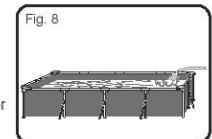

Fig. 9
- Fill pool until water capacity is 90% (See Fig. 9), DO NOT OVERFILL as this could cause the pool to collapse. In times of heavy rainfall you may need to empty some of the water to ensure the level is correct.